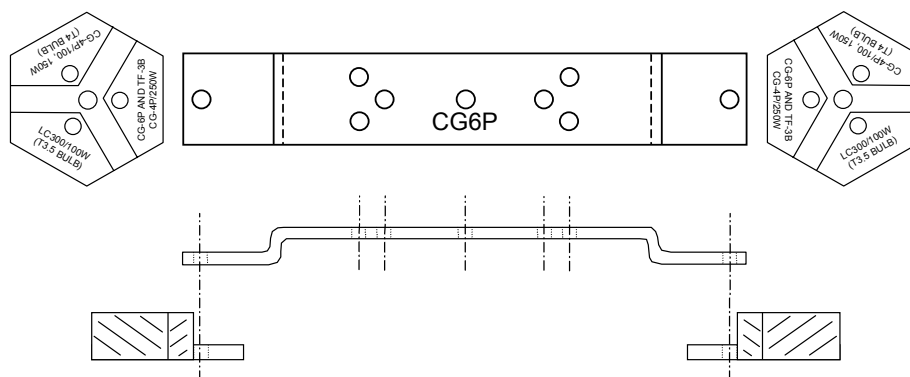

Figure 6-52. Lampchanger Bracket and Spacer Orientation for 12-volt Installation.
- (1) Open the range lantern door, and lock the door in the open position.
- (2) Insert the power cable through the cable gland. Terminate the leads with spring spade lugs sized for a #8 stud. Do not tighten the cable gland.
- (3) Remove the pipe plug from the $\frac{3}{4}$ " NPT threaded hole. Insert the photoresistor leads for a Type L daylight control through the hole. Screw the daylight control into the threaded hole and tighten gently with a wrench.
- (4) Locate the "DC Installation Kit," which came with the RL14 range lantern. Using the color-coded wires from the kit, wire a six-place lampchanger and flasher together, as discussed in Data Sheet 6-E(6). The lampchanger bracket should be oriented so that the label "CG6P" is up (see figure 6-52). Use a CG-6PHW lampchanger and CG-481 flasher if the lantern is to be outfitted with tungsten-halogen lamps rated above 35 watts.
- (5) Rotate the spacer blocks located at the back of the lantern drum so that the lampchanger bracket will rest over the spaces marked for the CG-6P. Gently tighten the mounting screw for each spacer block.
- (6) Wire the power cable and Type L daylight control to the flasher.
- (7) Mount the lampchanger/flasher assembly on the spacer blocks using the screws, flat washers, and lock washers provided.
- (8) Tighten the cable gland, and dress any loose wires.
- (9) Close the range lantern door and carefully latch all the latches.